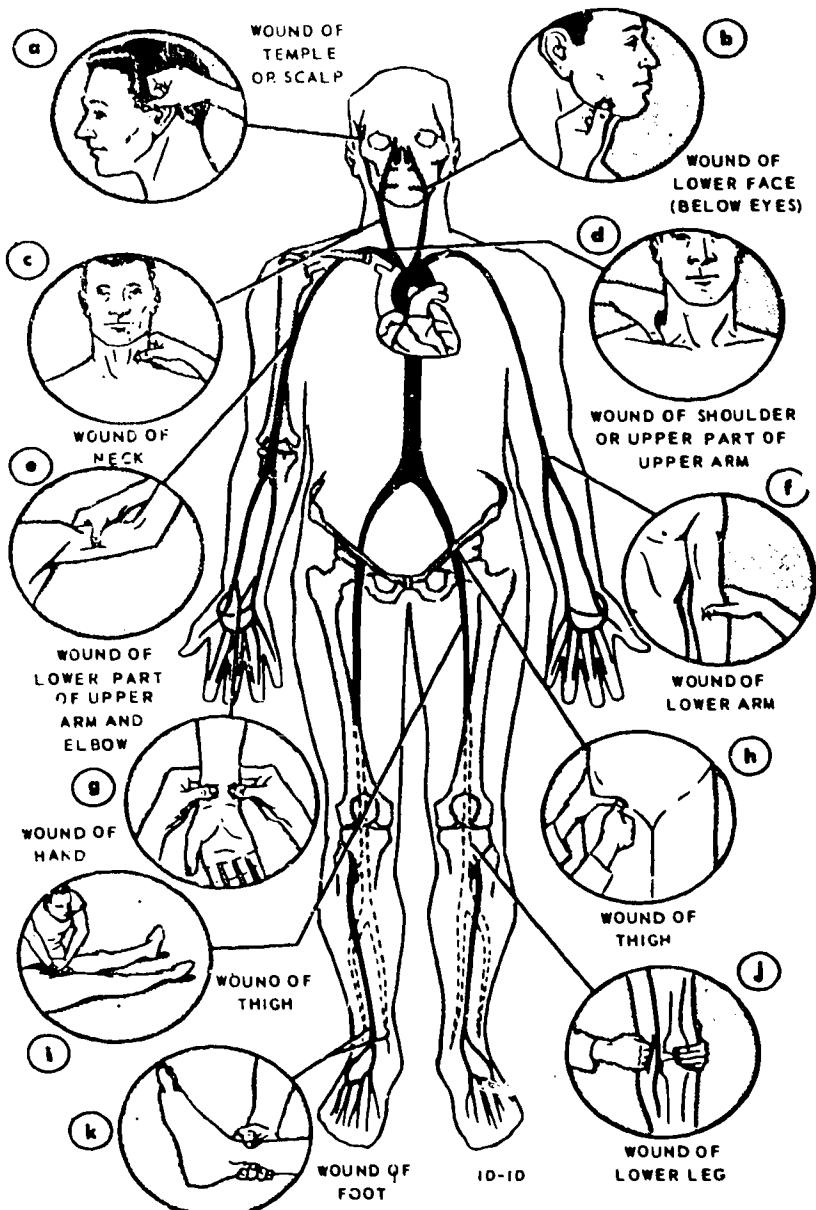

Figure 1-5. Pressure points.
**Pressure points.** In addition to applying pressure directly on the wound and elevating the wound, you can apply pressure at one of several pressure points. Figure 1-5 shows the location of these points. Place your finger lightly where you think the pressure point is. If you feel a pulse beat similar to a throbbing, you are right on it. Then, use the heel of your hand or fingertips your to press hard. Continue this pressure until any blood gushing from the wound ceases. If you release pressure and bleeding starts again, reapply the pressure. One warning about pressure points: in cases of head wounds, where pressure points are commonly used, be sure NOT to press on both neck pressure points at the same time. To do so will block the flow of blood to the victim's brain and eventually result in death.